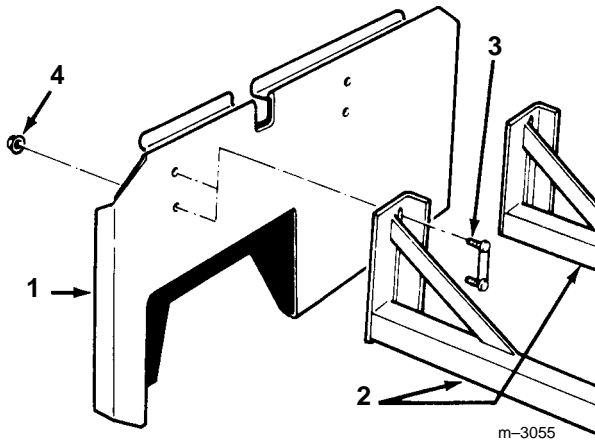

Figure 3
1. Secure the mounting beams to the back panel using four retainer bolts and four 3/8"-16 flange nuts (Fig. 3).
7. Adjust the back panel height by sliding the retainer bolts up or down in the slots in the mounting beams (Fig. 3) so that the bag tray is slightly below the bottom of the deck.